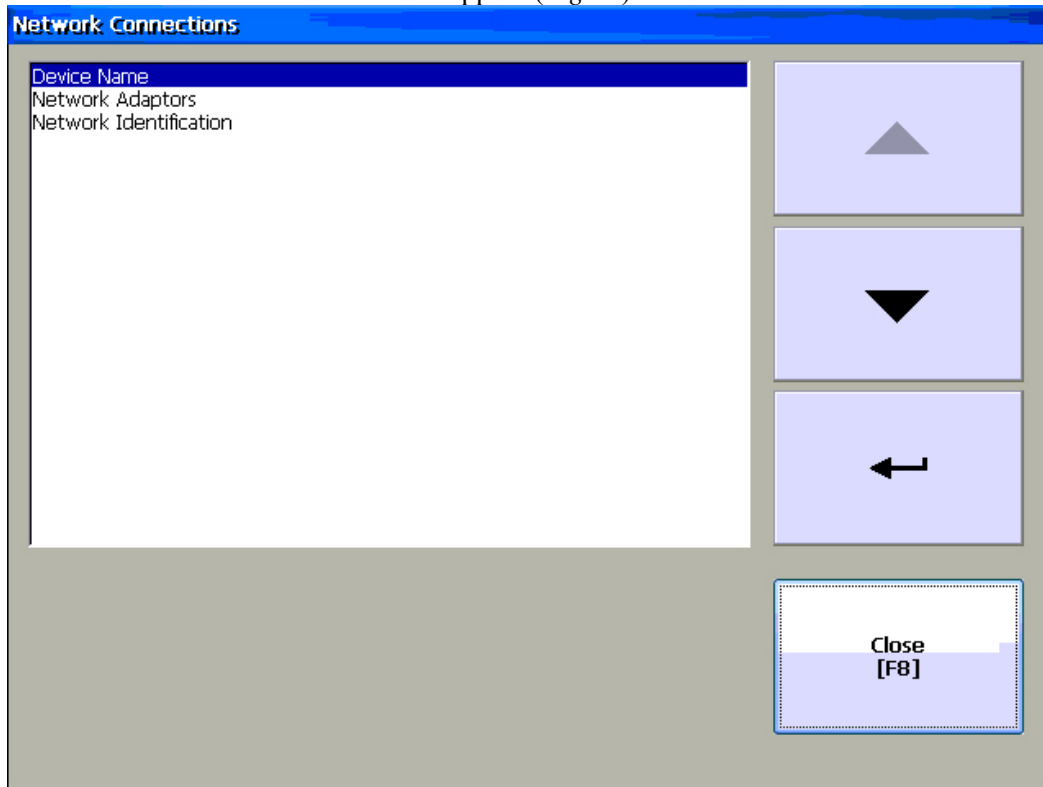

Fig 27
33. The Network Connections Menu will appear (Fig 27).
49. The Network Connections Menu will appear (*Fig 27*).